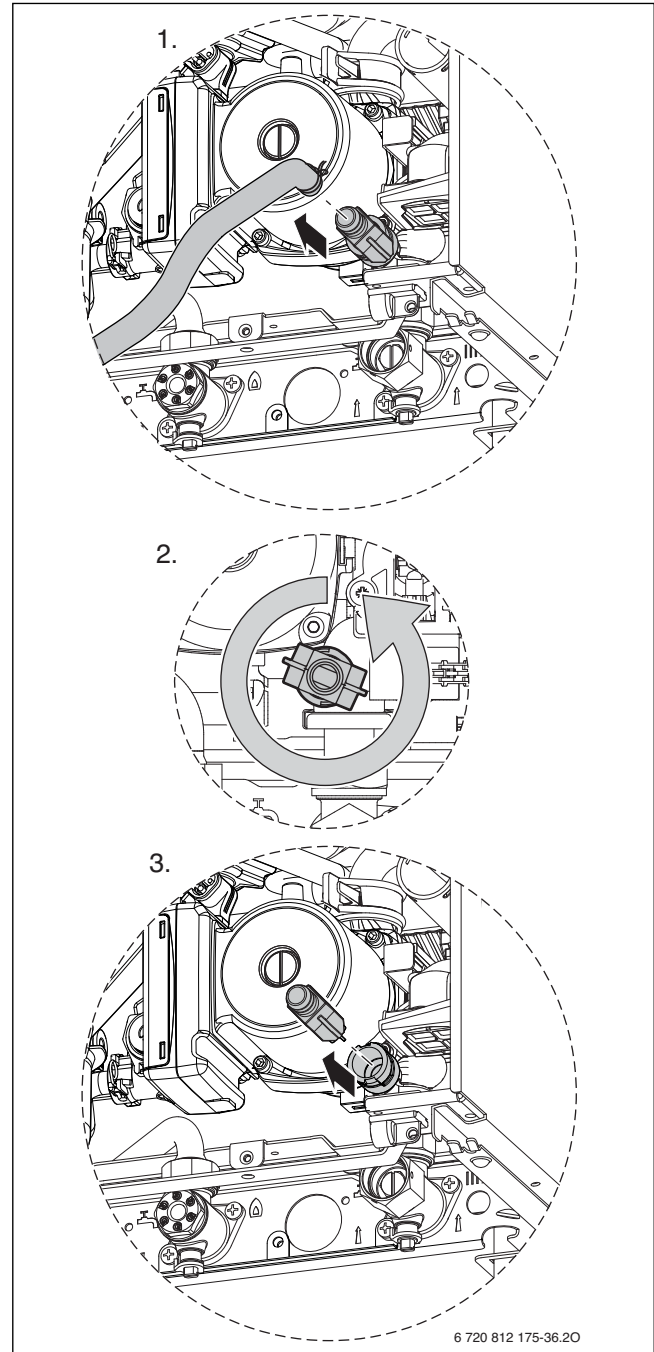

Fig. 93 Drain tap removal
- ▶ Disconnect drain pipe from drain tap (see e. g. step 1 in Fig. 93).